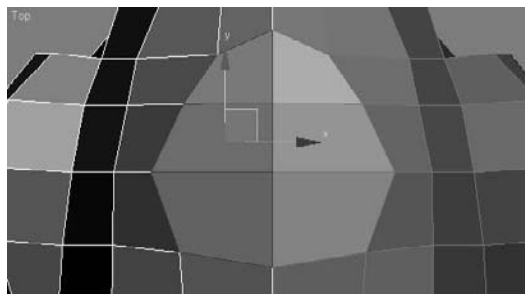

Figure 5.43
8. Switch to Poly Selection mode and select the control panel polygons shown in Figure 5.43.